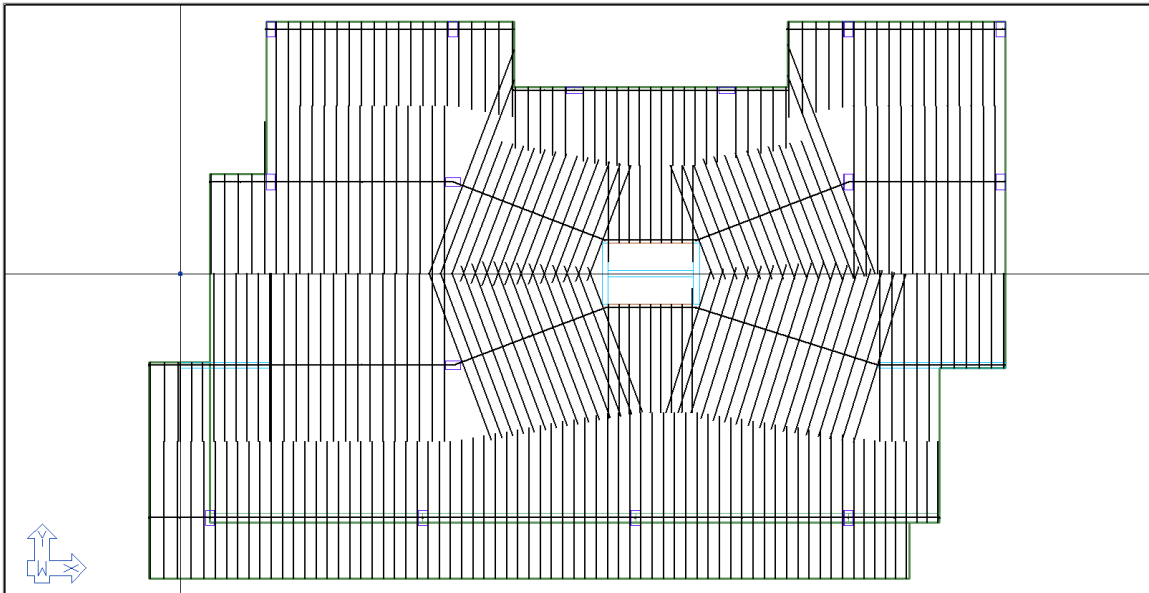

FIGURE 9-22
- Hover your mouse to the left of the slab region and align it with the center of the horizontal wall, as shown in **FIGURE 9-22**.